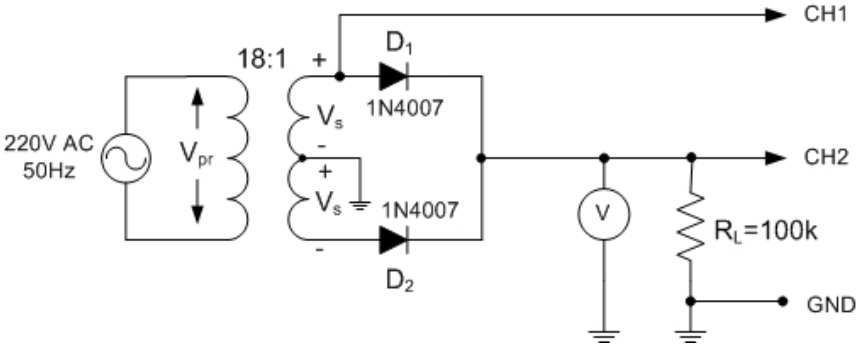

Figure 10: Practical Circuit for the Center-Tapped Full-Wave Rectifier
- Connect the full-wave center-tapped transformer rectifier circuit shown in Fig.10. Measure the DC output voltage, peak value of the secondary winding voltage, and the peak value of the output voltage as tabulated in Table 3. Sketch the output waveform in this case.